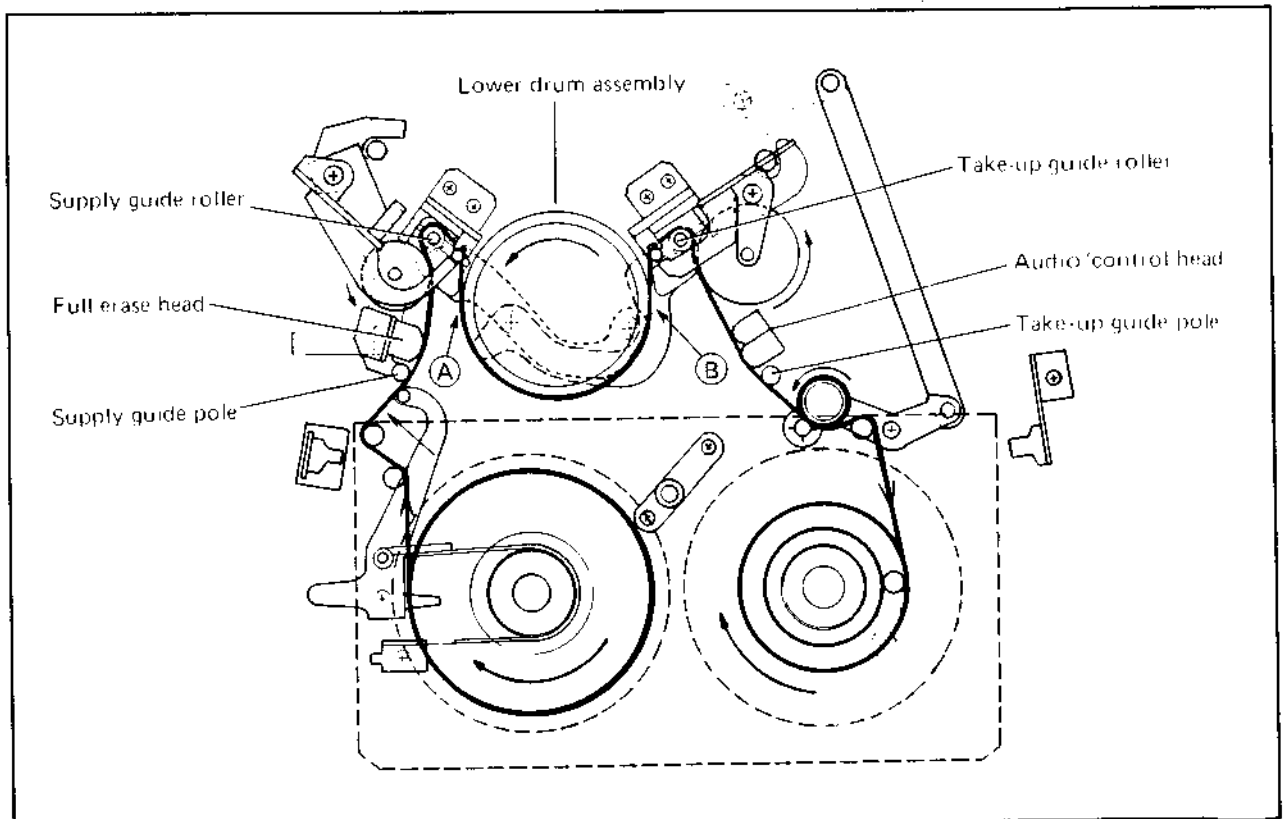

Fig. 4-21
2. During the Play mode, check for tape rising or sinking particularly at point (A) (drum intake) and point (B) (drum output) shown in Fig. 4-21. Rising of the tape will produce contact noise between the tape edge and the video heads, while sinking of the tape may produce curling or wrinkling (sometimes with contact noise).